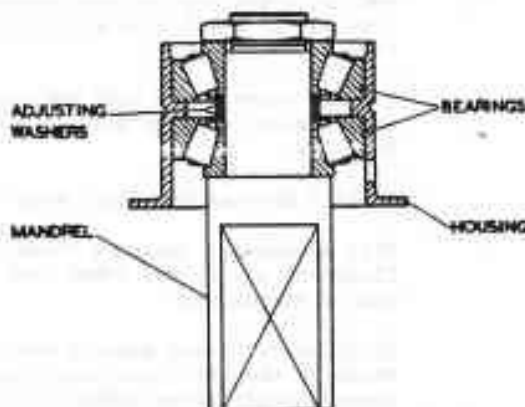

FIG. J12. BEARING ASSEMBLY MOUNTED ON MANDREL.
1. Tap new outer races into bearing housing and assemble in dry conditions on mandrel held vertically in vice, using the two original adjusting washers. See Fig. J12.